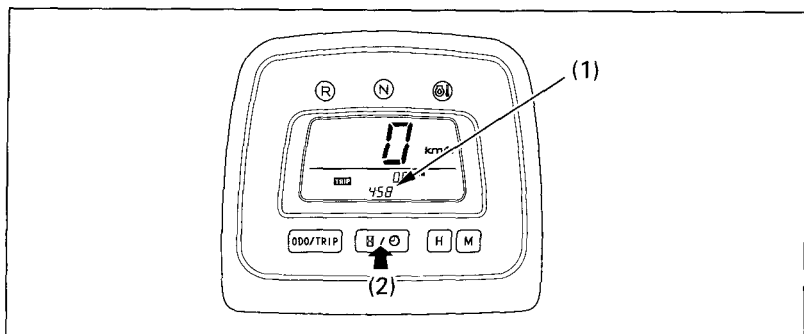

Fig. 2-19 (1) Digital clock (2) Hourmeter/digital clock select button
When selected, the digital clock (1) (Fig. 2-19) shows the time while the ignition is ON (I). To change the display from hourmeter to digital clock, press and release the hourmeter/digital clock select button (2).